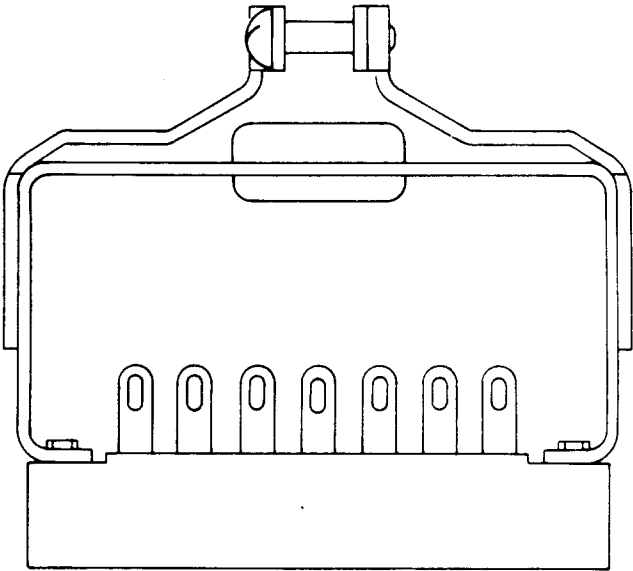

Fig. 15—KS-16323 Connector
2.10 KS-16323: The KS-16323 is a female connector (Fig. 15) with 21 terminals. This connector is used on a test cable for the ED-1G008-90 test frame of the A1 Digital Data Signaling System. This connector mates with the KS-16322 male connector.